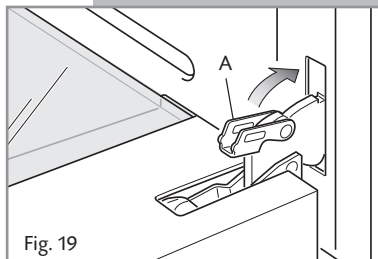

Fig. 19
- Unlock the oven door by opening it completely and closing the lever **A** on the left and right hinges (Fig. 19).